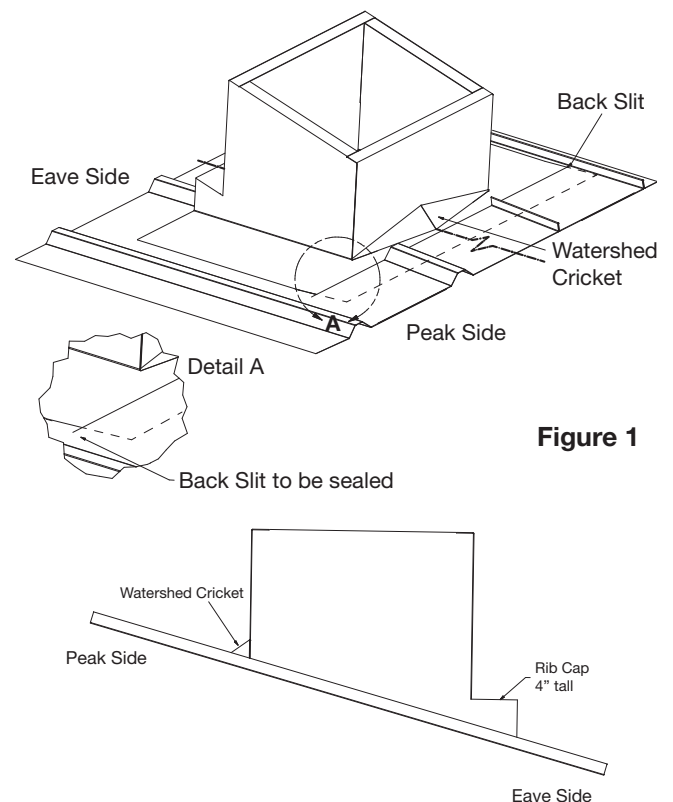

Figure 1
3. Slit roof panel back so peak side flange can be tucked underneath the roof panel. See **Figure 1**.